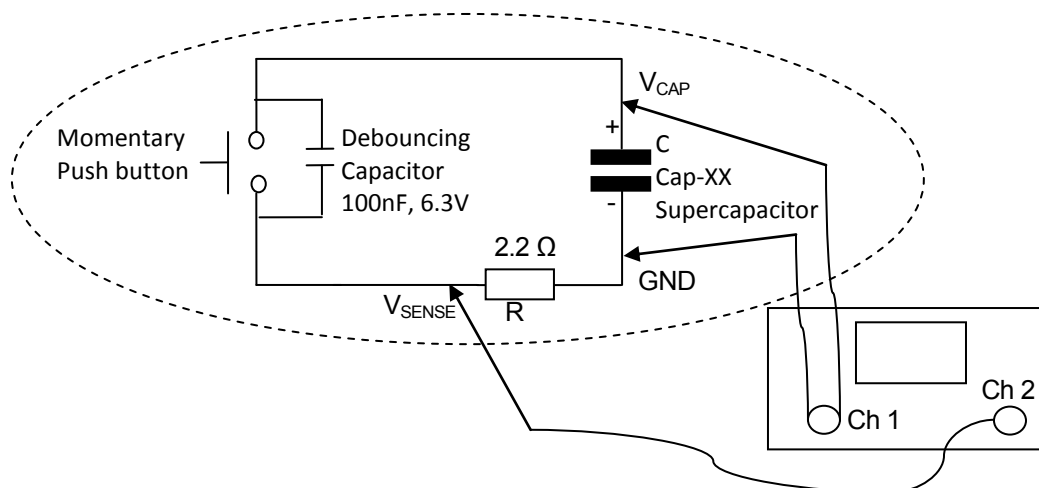
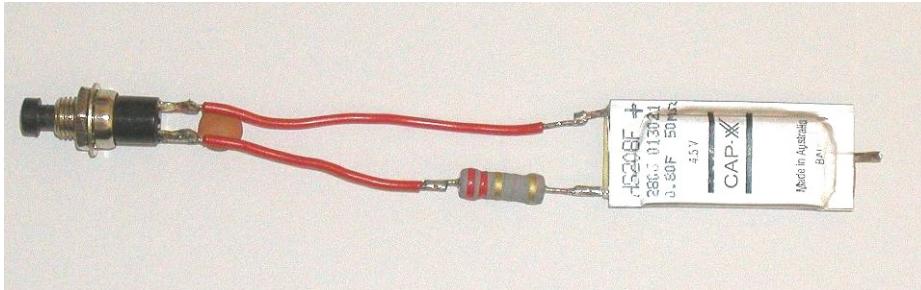

Fig 1: Measurement Setup for C & ESR
Fig 2: Picture of Supercapacitor Measurement Setup
A picture of the items circled in Fig 1 above is shown below in Fig 2. This illustrates how simple the setup is. The distance between R and supercap V- should be as short as possible and the connection should use thick wire to keep the impedance low. Attach the scope ground to the supercapacitor V- terminal and the scope V_{CAP} probe to the supercapacitor V+ terminal. Attach the scope V_{SENSE} probe as close as possible to R.
Note that dual cell CAP-XX supercaps have a 3rd terminal, labelled “BAL”, which is at the midpoint of the 2 supercap cells and used for cell balancing. For this exercise, where it has been assumed that the supercap is only on charge for a few minutes while these measurements are carried out, we have ignored the balance terminal and left it not connected and not shown it in Fig 1. If you are going to leave the supercap at voltage for an extended time, then place a pair of 2.7K Ω resistors, one across each cell (from –ve to BAL, and from BAL to +ve). This will keep the supercap cells in voltage balance but have an insignificant effect on your results.
1. Assemble the circuit as shown in figure 1.